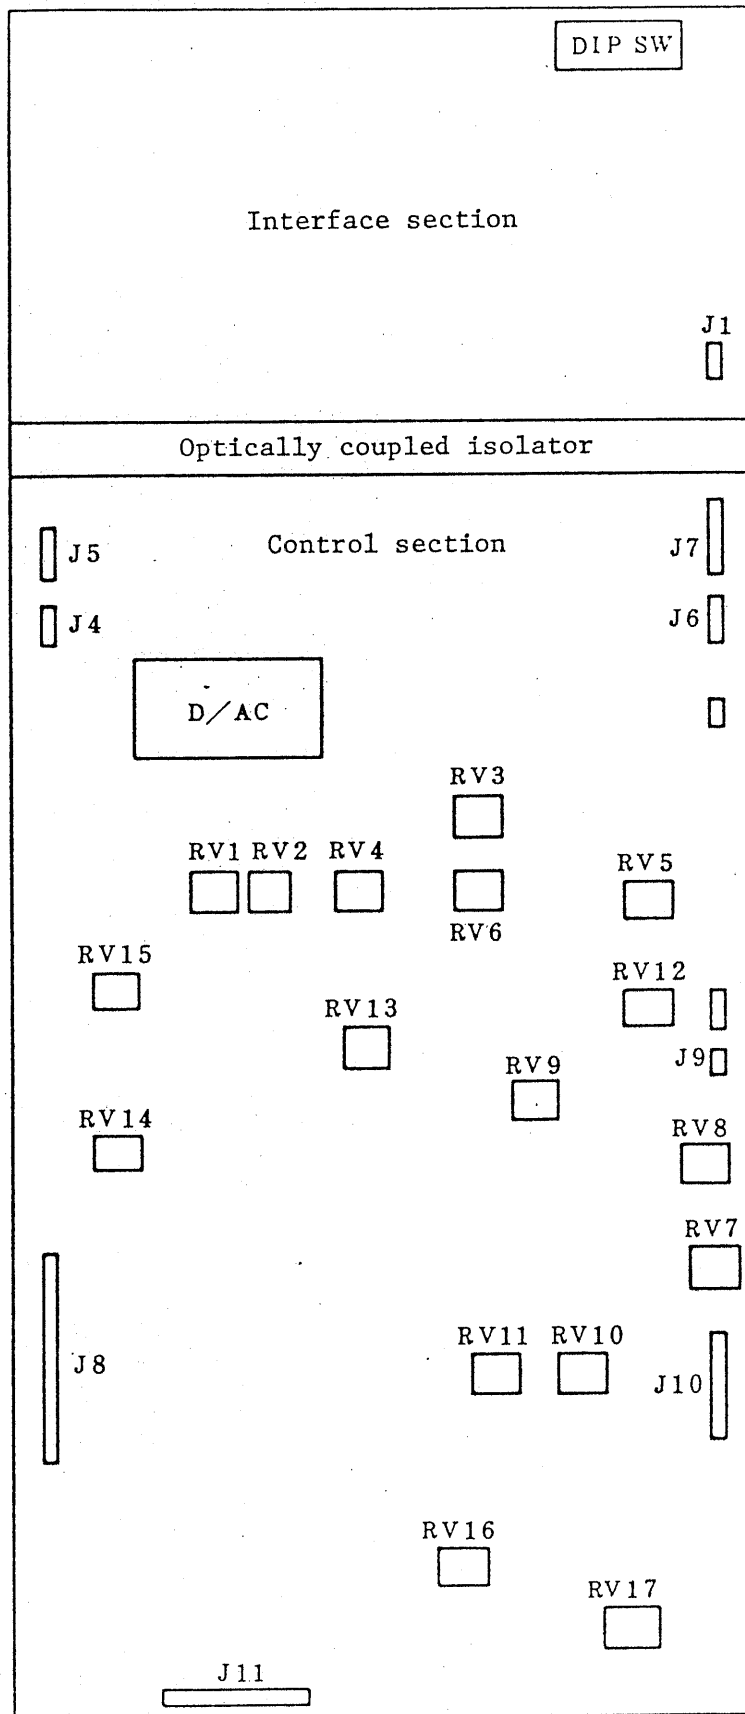

Figure 6-2
6.2 Adjusting Procedures (See Figure 6-2.)